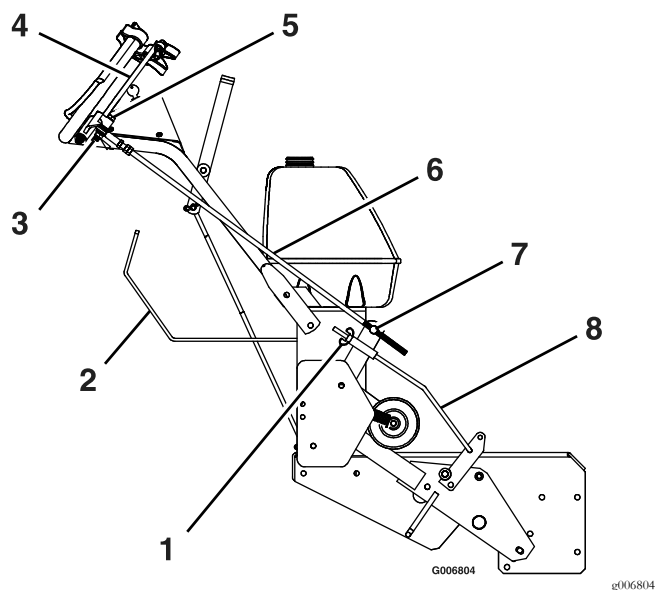
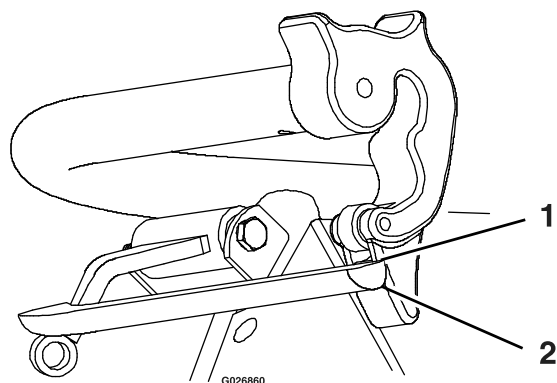

Figure 11
Figure 12
4. Repeat the procedure for the other side. See Figure 11 and Figure 12.